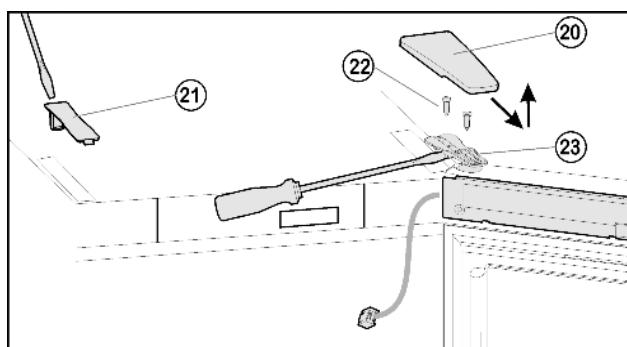
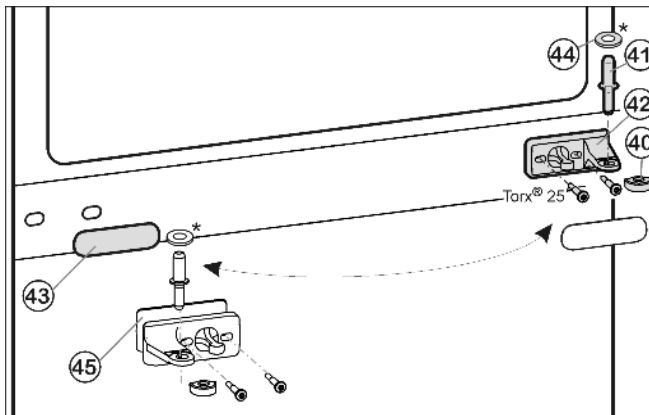
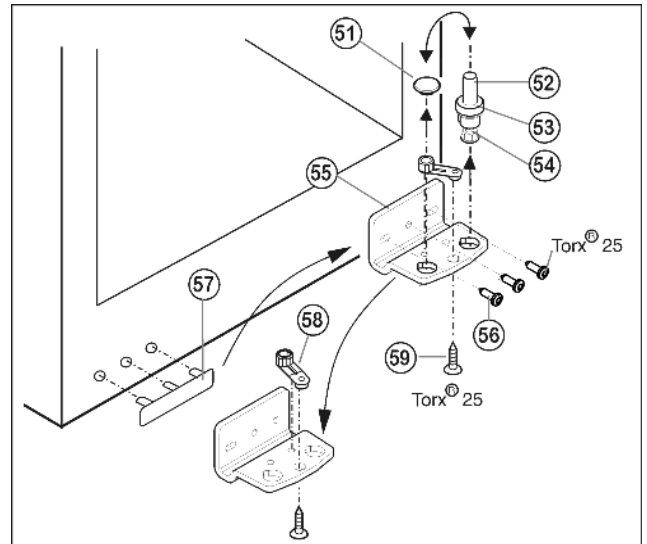

Fig. 6
Fig. 7
Fig. 8
- ▶ Draw the cover Fig. 6 (20) forwards and lift it off.
- ▶ Lift off the cover Fig. 6 (21).
- ▶ Completely undo the screws *Fig. 6 (22)*.
- ▶ Lift off the door complete with turn hinge *Fig. 6 (23)* and cable. For release, possibly use a flat-blade screwdriver and carefully lever it under the turn hinge.
- ▶ Draw the middle bearing pin *Fig. 7 (41)* out of the turn hinge and lower door.
- ▶ Remove the plastic cap *Fig. 7 (40)*.
- ▶ Unscrew the middle turn hinge (2x Torx® 25). *Fig. 7 (42)*
- ▶ Carefully detach the cover panel *Fig. 7 (43)*.
- ▶ Turn the middle turn hinge *Fig. 7 (42)* with the washer *Fig. 7 (45)* through 180° and screw it **firmly** into place on the new hinge side (**with 4 Nm**).
- ▶ Turn the cover panel *Fig. 7 (43)* through 180° and snap it into place again on the new handle side.
- ▶ Lift out the bearing pin *Fig. 8 (52)* together with washer *Fig. 8 (53)* and adjustable-height foot *Fig. 8 (54)*.
- ▶ Lift off the stopper *Fig. 8 (51)*.
- ▶ Unscrew *Fig. 8 (56)* the turn hinge *Fig. 8 (55)*.
- ▶ Unscrew *Fig. 8 (59)* the bearing element *Fig. 8 (58)*, transfer it to the opposite location hole of the turn hinge and screw it firmly into place.
- ▶ Carefully lift off the cover on the handle side *Fig. 8 (57)* and transfer it to the opposite side.
- ▶ Screw the turn hinge *Fig. 8 (55)* firmly into place on the new hinge side, possibly using a cordless screwdriver (**with 4 Nm**).
- ▶ Re-insert the stopper *Fig. 8 (51)* into the other hole.
- ▶ Re-insert the bearing pin *Fig. 8 (52)* together with the washer and adjustable-height foot. In so doing, pay attention that the locating lug points backwards
- ▶ Place the door from above onto the bearing pin *Fig. 8 (52)*.
- ▶ Place the plastic cap *Fig. 7 (40)* back on the middle turn hinge *Fig. 7 (42)*
- ▶ Pass the middle bearing pin *Fig. 7 (41)* through the middle turn hinge *Fig. 7 (42)* into the lower door.
- ▶ Place the upper door on the middle bearing pin *Fig. 7 (41)*, close the door and attach the upper turn hinge *Fig. 6 (23)* so that it engages in the upper side of the appliance.
- ▶ Screw the turn hinge *Fig. 6 (23)* firmly into place (with 4 Nm). Possibly make preliminary holes with a bradawl or use a cordless screwdriver.
- ▶ Snap cover *Fig. 6 (20)* and cover *Fig. 6 (21)* into place.
- ▶ Possibly align the door to the appliance housing by way of the two slots in the lower turn hinge *Fig. 8 (55)* and middle turn hinge *Fig. 7 (42)*. To do so, unscrew the middle screw in the bottom turn hinge *Fig. 8 (55)*.